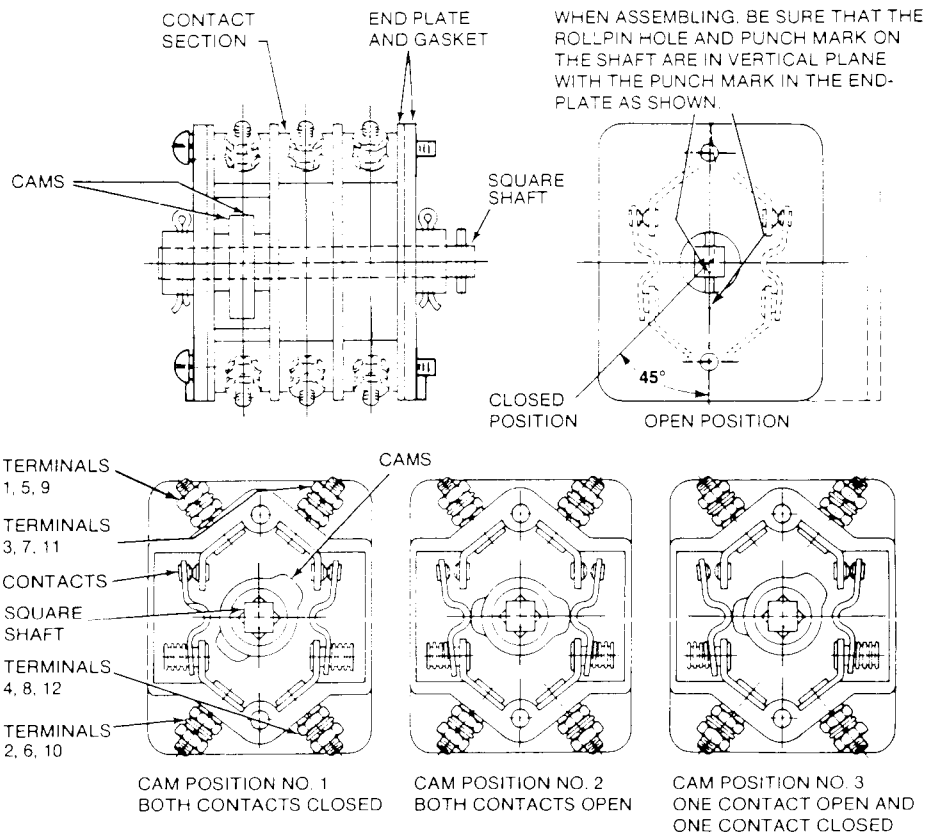

Figure 27.
5. Reposition the cams in the desired position as shown in Figure 27.